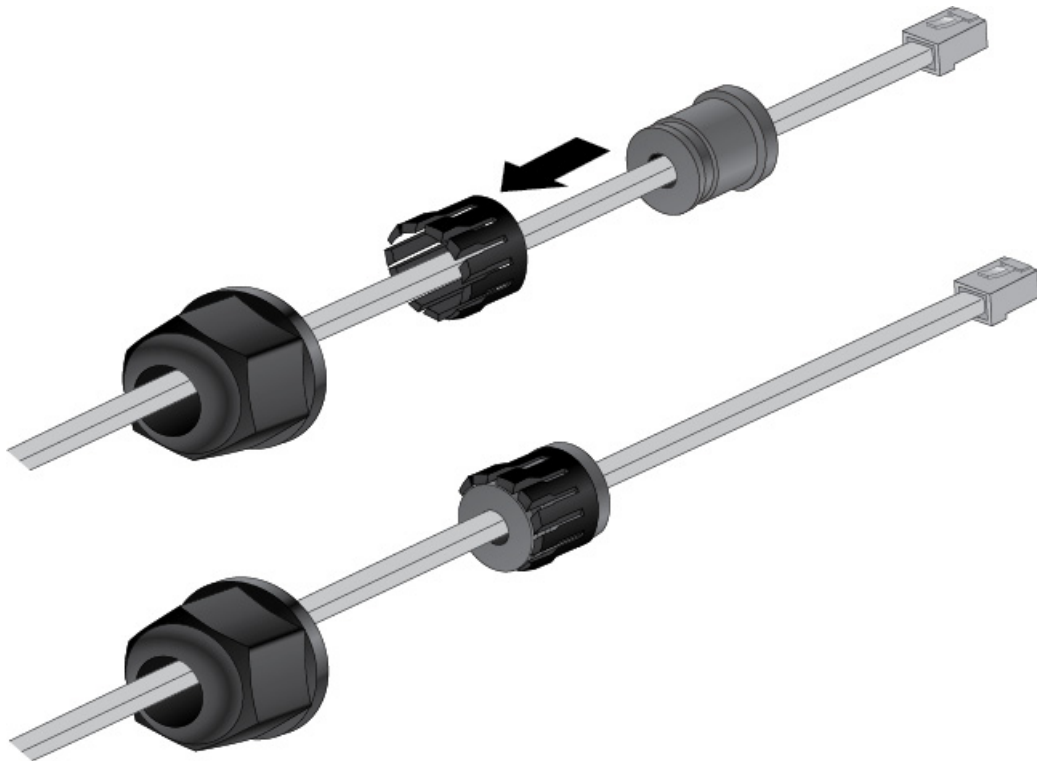

Figure 12. Inserting the Sealing Insert in the Clawing Clamp
6. Slide the sealing insert into the clawing clamp. Refer to Figure 12.